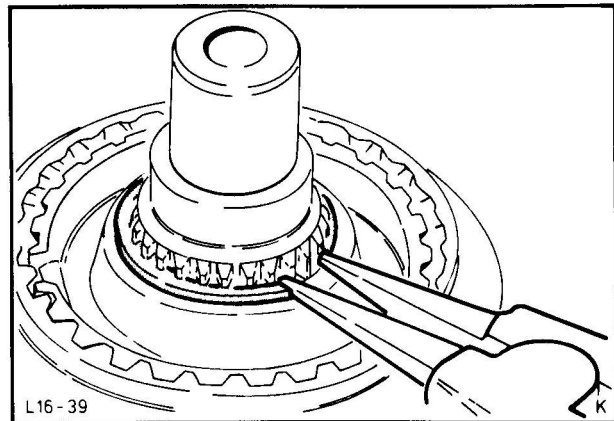

Fig. 31. Remove circlip from 3rd/4th gear synchroniser hub
18. Remove circlip from 3rd/4th gear synchroniser hub. Detach synchroniser hub with 3rd gear by hand, Fig. 31.